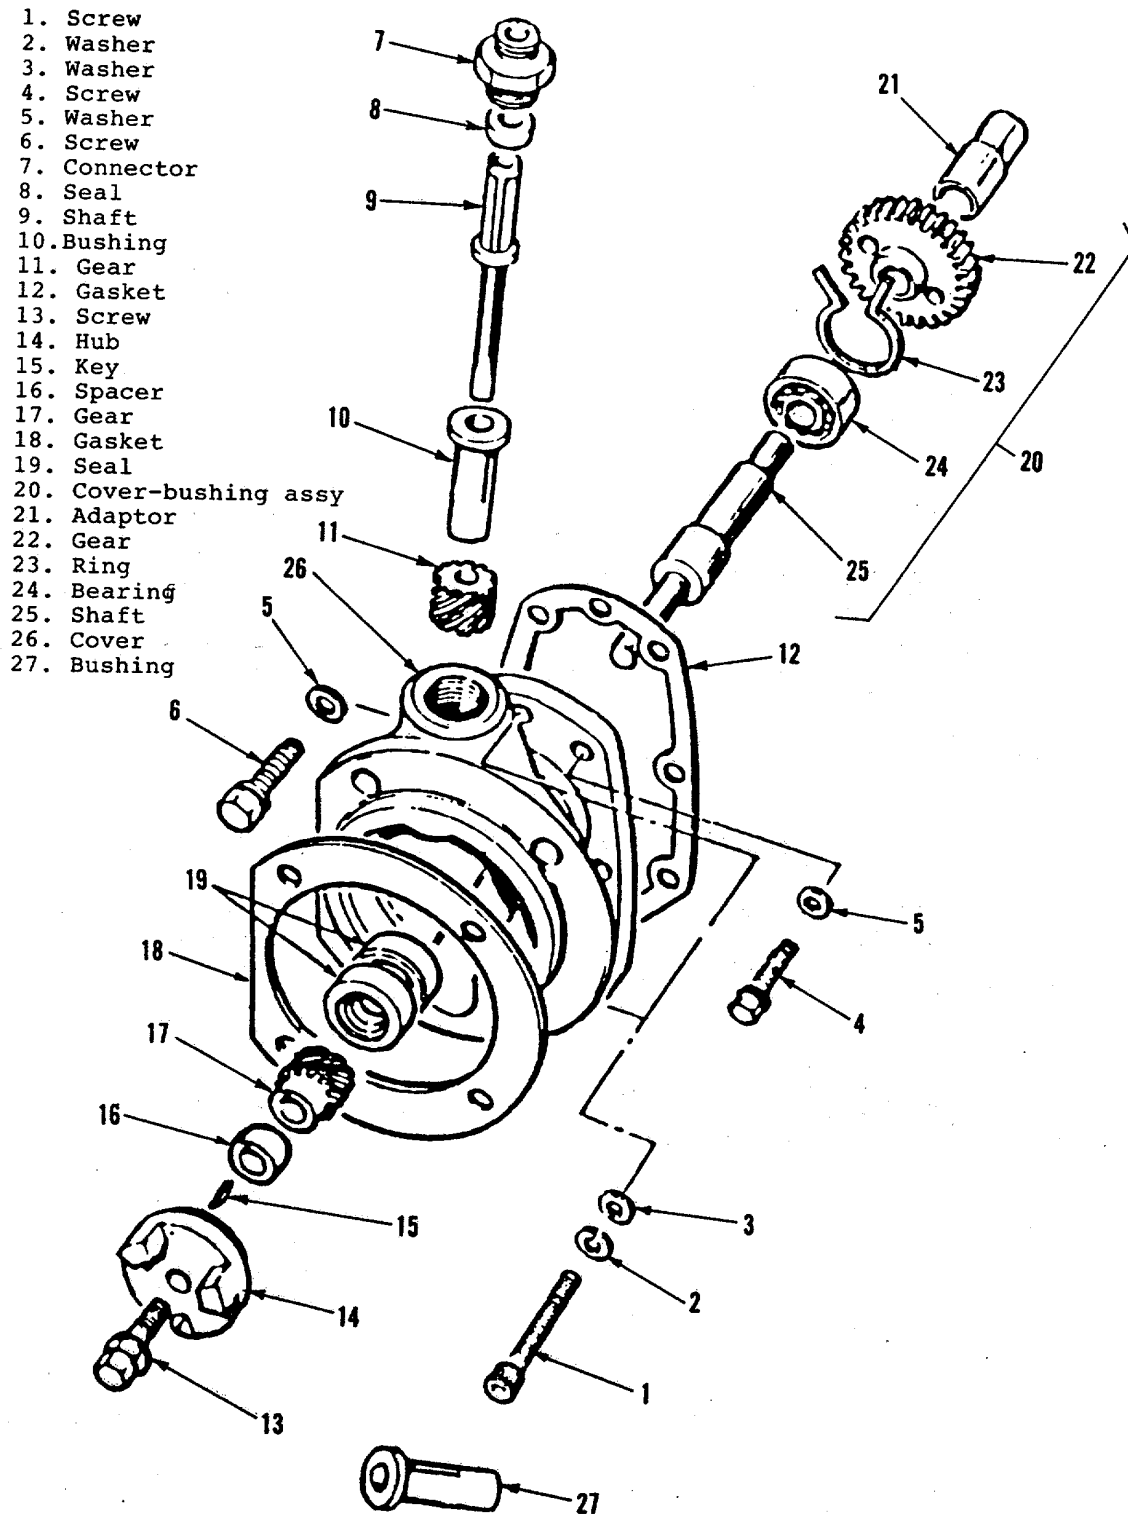

Figure 13-13. Mainshaft Cover and Tachometer Drive,
- b. Unscrew the connector (7, figure 13-13) from the tachometer drive housing.
13-10. TACHOMETER DRIVE (Code B). To inspect, replace, and repair the tachometer drive refer to figure 13-13, and proceed as follows:
- (5) Observe gear backlash between weight shaft gear and drive gear (22, figure 13-13). Normal backlash is 0.005 to 0.009 inch (0.13 to 0.23 mm).
- (7) Remove drive shaft (9, figure 13-13), seal (8), bushing (10), and gear (11).
- (8) Remove screw (13), hub (14), key (15), spacer (16) and gear (17). Press drive shaft (25) from cover.
- (9) Press gear (22) from cover
- (10) Press oil seals (19) from cover.